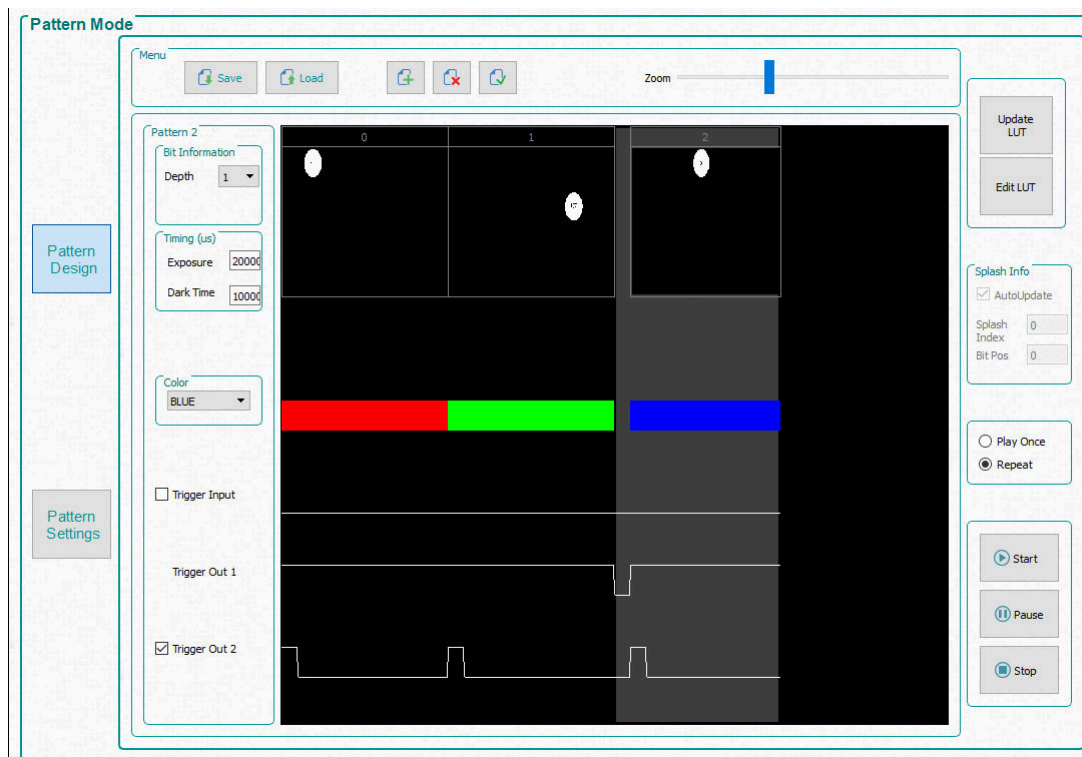

Figure 3-10. Three Pattern Sequence
7. Select the third pattern and choose a bit depth of 1. Set exposure to 200000µs and set dark time to 100000µs, and select **Blue** as the color. Figure 3-10 shows the pattern sequence. The *Zoom* bar can be used to zoom in and out which is useful when many patterns are loaded into the panel.